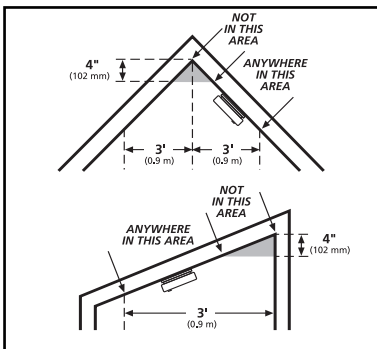

FIGURE 3
- Install Smoke Alarms on sloped, peaked or cathedral ceilings at or within 3ft (0.9m) of the highest point (measured horizontally). NFPA 72 states: "Smoke alarms in rooms with ceiling slopes greater than 1 foot in 8 feet (.3m in 2.4 m) horizontally shall be located on the high side of the room." NFPA 72 states: "A row of detectors shall be spaced and located within 3 ft (0.9m) of the peak of the the ceiling measured horizontally" (see FIGURE 3).